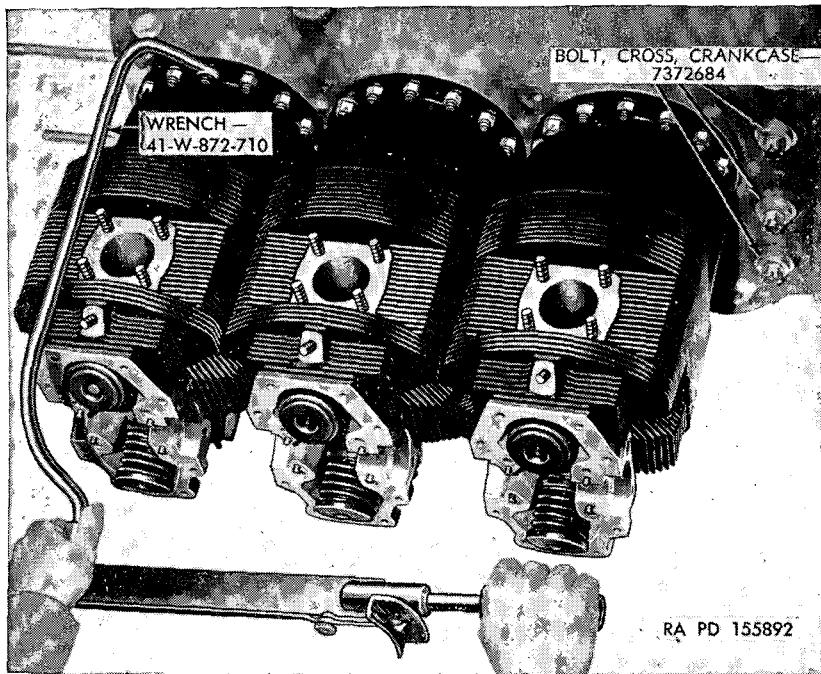

Figure 22. Torquing cylinder hold-down nuts.
- b.* Using a torque wrench in combination with box wrench 41-W-872-715 for larger nuts, and box wrench 41-W-872-710 (fig. 22) for smaller nuts, remove the cylinder hold-down nuts. Check and record the torque required to break each nut loose. If the torque required to break the smaller nuts (on studs) is less than 300 lb-in, the nut should be removed and mica base anti-seize compound applied to the stud. Install the nut and tighten to 350 lb-in. If the nut does not tighten to this torque, the stud is stretching and must be replaced (par. 57). If the torque required to break the larger nuts (on cross bolts) is less than 650 lb-in, the nuts should be removed, antiseize compound applied,